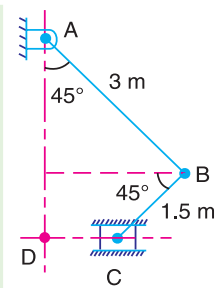

Fig. 8.7
**Example 8.3.** In the mechanism shown in Fig. 8.7, the slider  $C$  is moving to the right with a velocity of  $1 \text{ m/s}$  and an acceleration of  $2.5 \text{ m/s}^2$ .